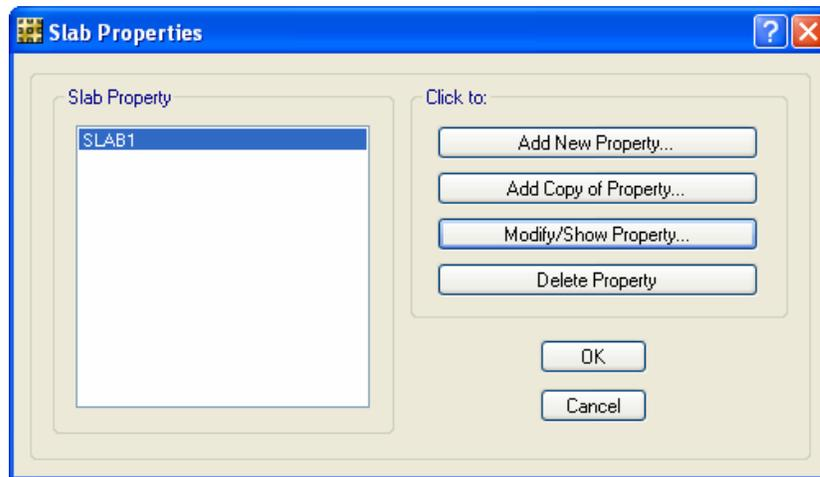

Figure 61 Slab Properties form
- A. Click the **Define menu** > **Slab Properties** command to access the Slab Properties form shown in Figure 61.